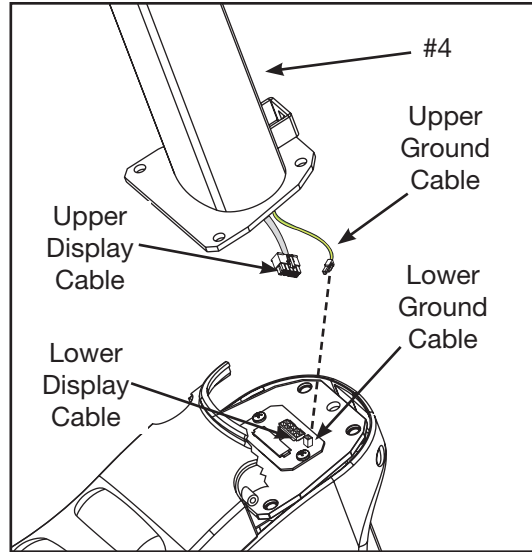

Figure 5
- B. Locate the upper display cable and plug it into the lower display cable in the main frame assembly. See Figure 5.
- C. Locate the upper ground cable and plug it into the lower ground cable on the main frame assembly. See Figure 5.